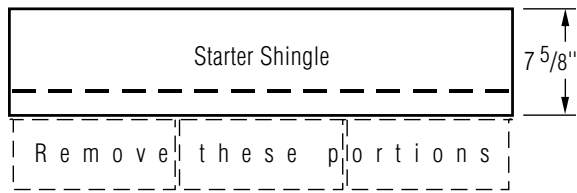

Figure 12-6: Make starter shingles that are $7\frac{5}{8}$ " in height.
1. Use CertainTeed Swiftstart® Starter, or three-tab self-sealing shingles with the lower tab portions removed. Be sure that the starter shingles are at least $7\frac{5}{8}$ " in height. (Figure 12-6).